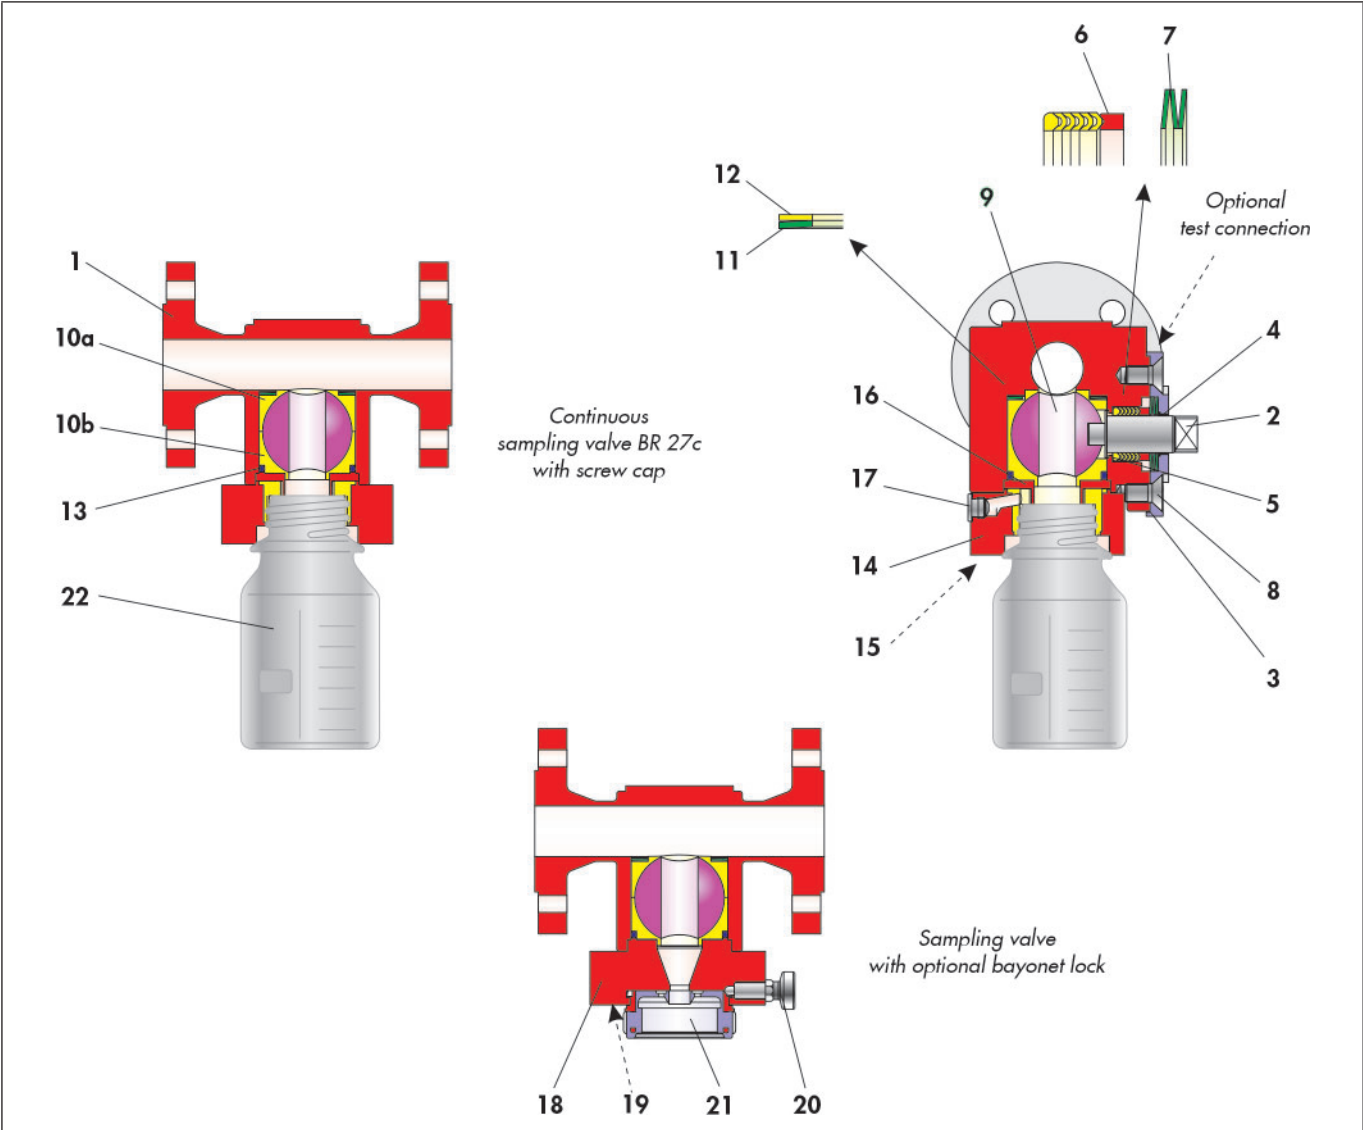

Fig. 3-1: Sectional drawing of the BR 27c sampling valve
The position and arrangement of the individual parts shown in Fig. 3-1 must be observed during assembly.
- ⇒ Clamp the main body (1) with the sealing area of the ball facing upwards in a vice, so that it is accessible for assembly.
- ⇒ The sealing disc (12) and the disc spring (11) are inserted into the body. Position of the disc spring, see Fig. 3-1.
- ⇒ The bearing bush (5) is pressed into its intended position, for the subsequent locating of the stem.
- ⇒ Insert the control shaft (2) through the mounted bearing bush (5) into the shaft bushing.
- ⇒ The sampling ball (9) with the slot is pressed onto the control shaft (2), and with firm evenly applied pressure, the control shaft is turned and pressed until it finally sits in the seat ring (10a).
- ⇒ Insert the O-ring (13) into the seat ring (10b).
- ⇒ Place the funnel (16) on the seat ring.
- ⇒ Grease the screws (15).
- ⇒ The PTFE V-ring packing (6) is inserted together in the body bore in the following order: PTFE bottom ring, PTFE V-rings, and steel V-ring.
- ⇒ Following this, insert the disc spring set (7). For exact positioning and locating of the V-ring packing and spring washers, refer to Fig. 3-1.
- ⇒ Press the bearing bush (4) into the stuffing box flange (3).
- ⇒ Grease the screws (8).
- ⇒ The stuffing box flange (3), together with the bearing bush (4), are mounted, and aligned with the screws (8). Next, tighten the screws evenly and in alternating pattern.